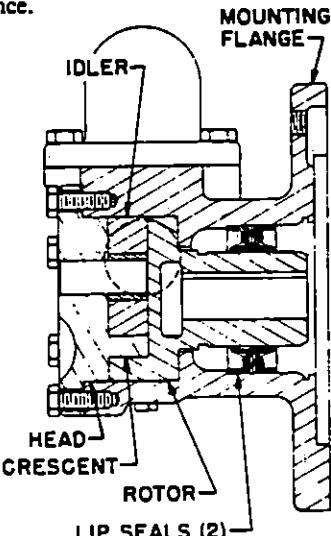

FIGURE 7
To Reassemble Model G75 or GG75 Lip Seal Pumps: (see Figure 7)
1. **INSTALL THE LIP SEALS.** The lip seals should be installed in the casing one at a time from the large flanged end. The sealing lips must face away from each other. **NOTE:** Use an arbor press with an arbor of 2-3/16" diameter and press the lip seals in the casing as far as they will go. See Figures 7, 8, 9 and 10 for a cross section of your pump models.
6. **THE HEAD CAN NOW BE ASSEMBLED ON THE PUMP.** Tilt the top of the head away from the pump slightly until the crescent enters the inside diameter of the rotor and rotate the idler until its teeth mesh with the rotor teeth. Do not damage the head gaskets. Note correct position of idler and crescent (See Figure 7 and Disassembly Step 2). Tighten the head capscrews and then check the end clearance.